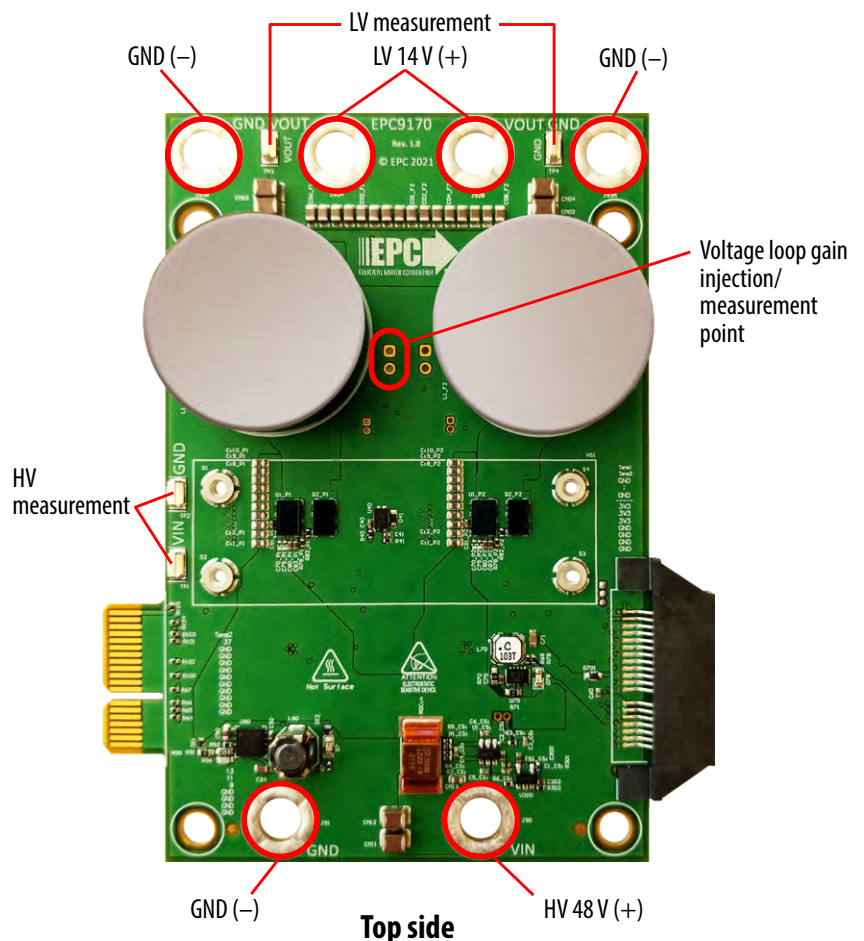

Figure 2: EPC9170 test point pad and hookup locations and designations
All signals are measured with respect to ground (GND). All the test point locations are shown in figure 2.
**Buck mode:** power supply connects to HV 48V (+) and GND (-); load connects to LV 14V (+) and GND (-), as shown in figure 2.
**Boost mode:** power supply connects to LV 14V (+) and GND (-); load connects to HV 48V (+) and GND (-), as shown in figure 2.